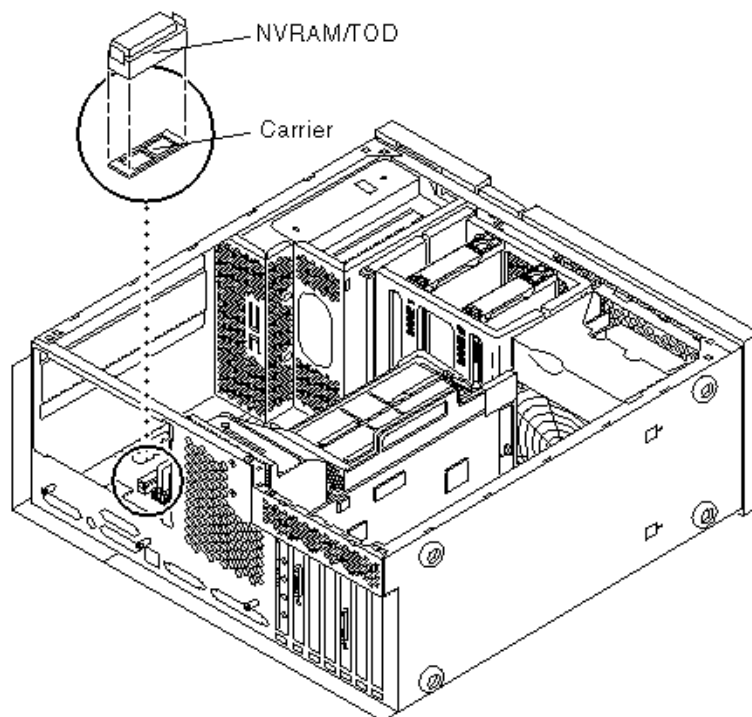

Figure 10-2 Removing and Replacing the NVRAM/TOD
5. Remove the NVRAM/TOD as follows (Figure 10-2):
1. **Replace the NVRAM/TOD as follows (Figure 10-2):**